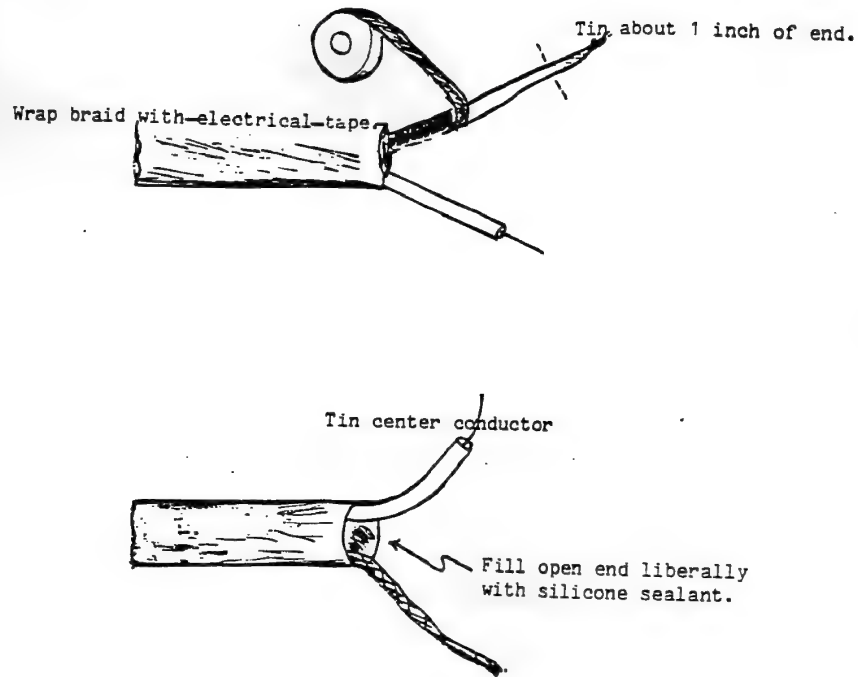

FIGURE 6-2: WEATHERPROOFING COAX
f. Using a sealing compound such as RTV or any silicone sealant, plug up the open end of the coax as shown in Figure 6-2. Allow a few hours for the stuff to set or you'll have a mess.